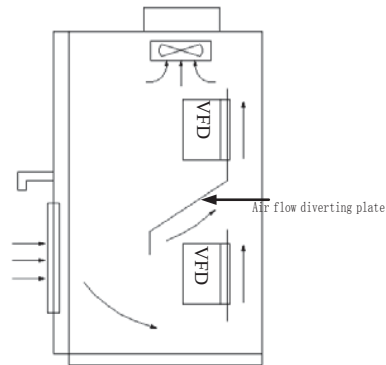

Fig. 3-2 Mounting of multiple VFDs
(3) When several VFDs are installed in one cabinet, they should be mounted in parallel with special incoming and out coming ventilation and special fans. When two VFDs are mounted up and down, an air flow diverting plate should be fixed as shown in Fig. 3-2 to ensure good heat dissipation.